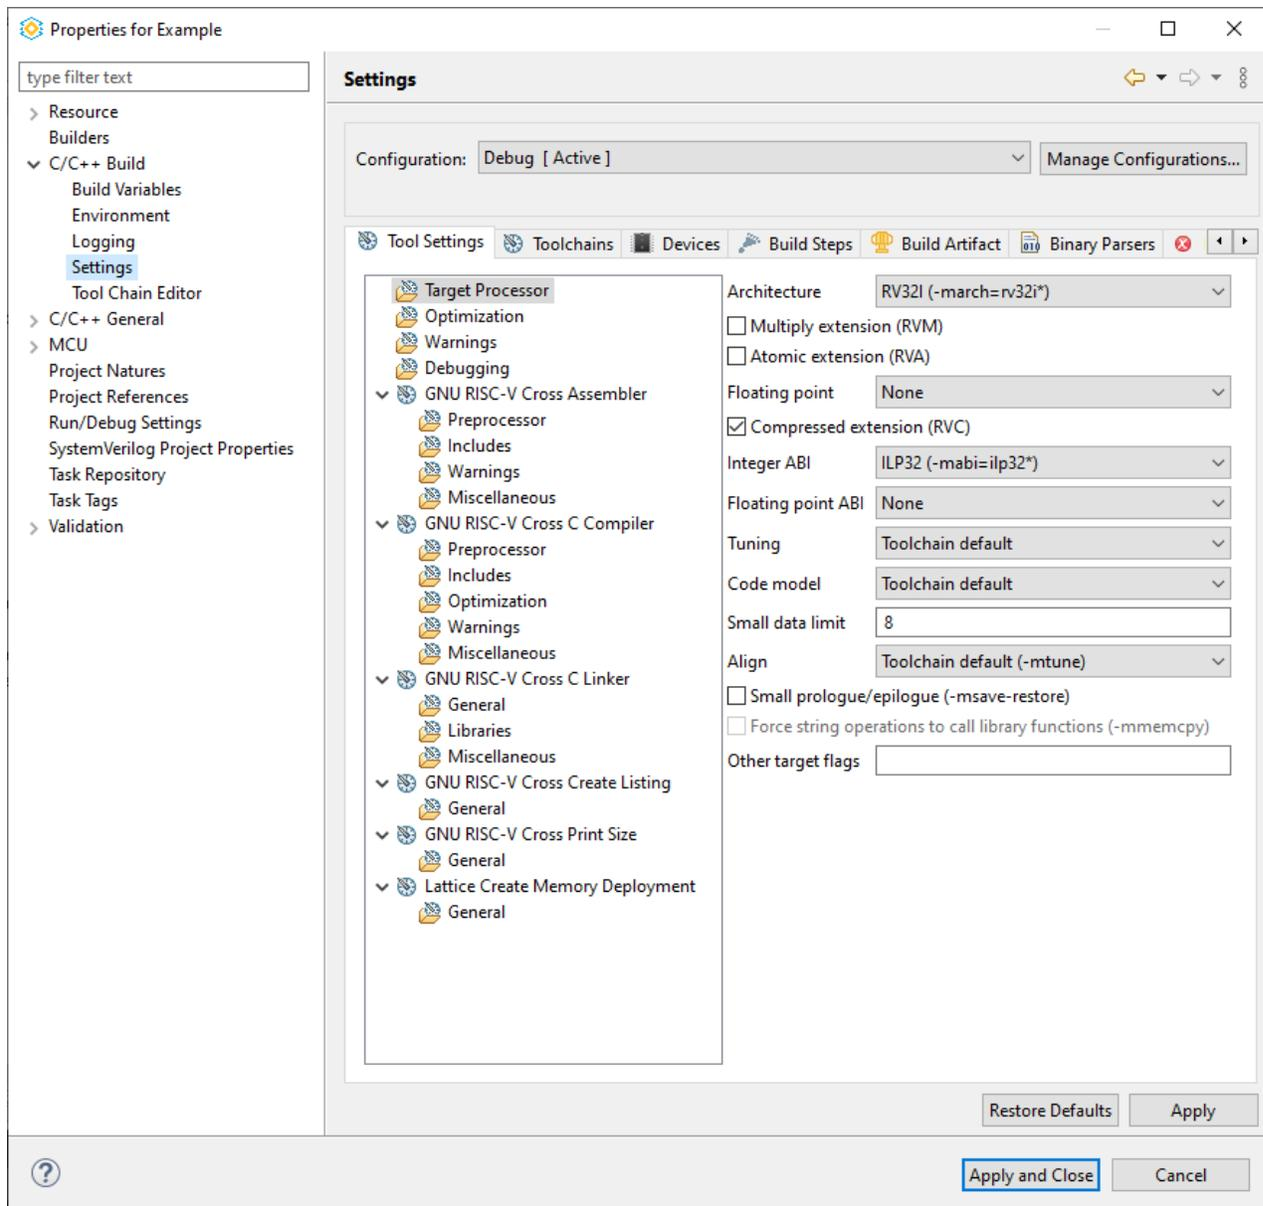

Figure 3.30. Properties of C/C++ Project
2. Choose **Project > Properties**. The Properties for current project opens (Figure 3.30).